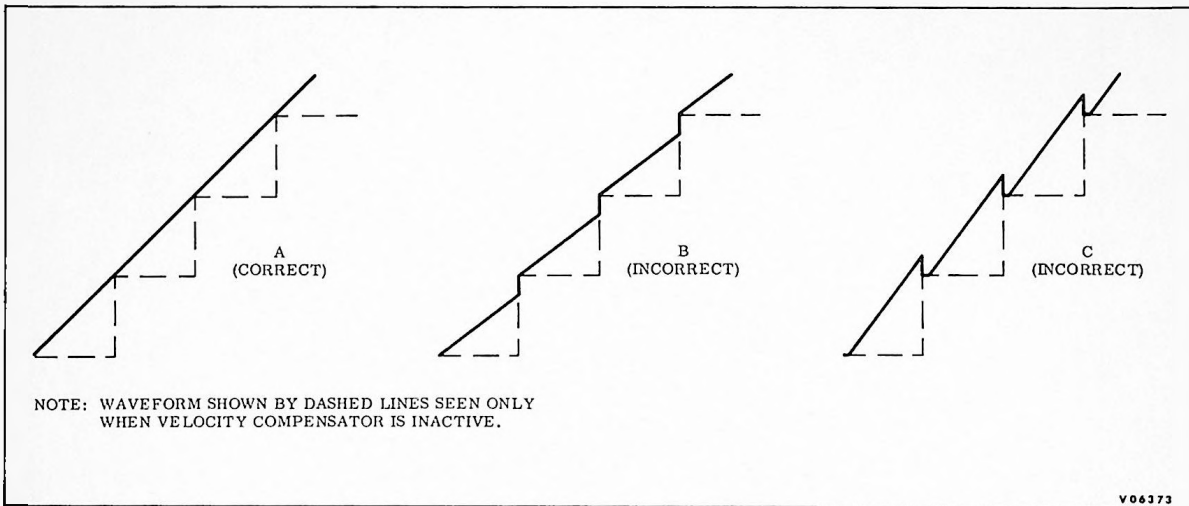

Figure 5.2-15. Waveform for Ramp Generator Gain Adjustment
- e. Adjust R50 (board 8) for a waveform approximating that of Figure 5.2-15.